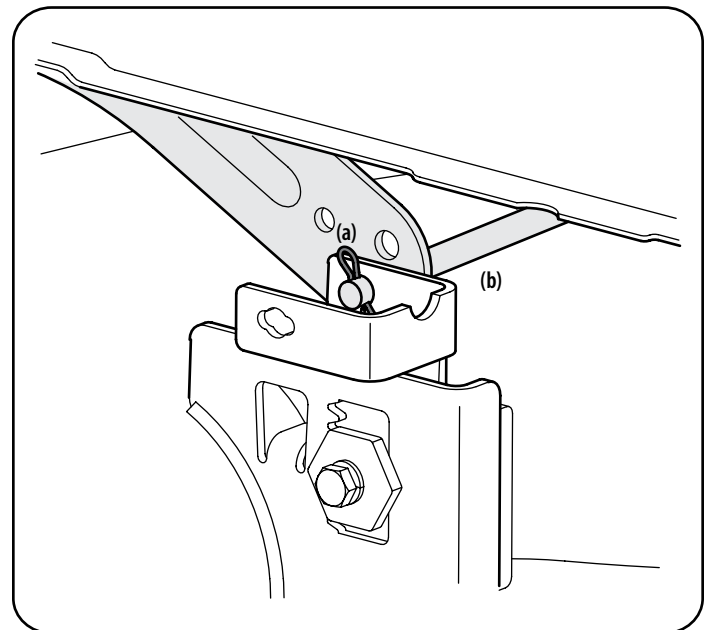

Figure 24
5. Looking at the cutting deck from the left side of the tractor, locate the bow-tie pin (a) that secures the deck support rod (b) on the rear left side of the deck. See Figure 24. Remove the bow-tie pin (a) that secures the deck support rod (b), and carefully remove the deck support from the deck lift arm.